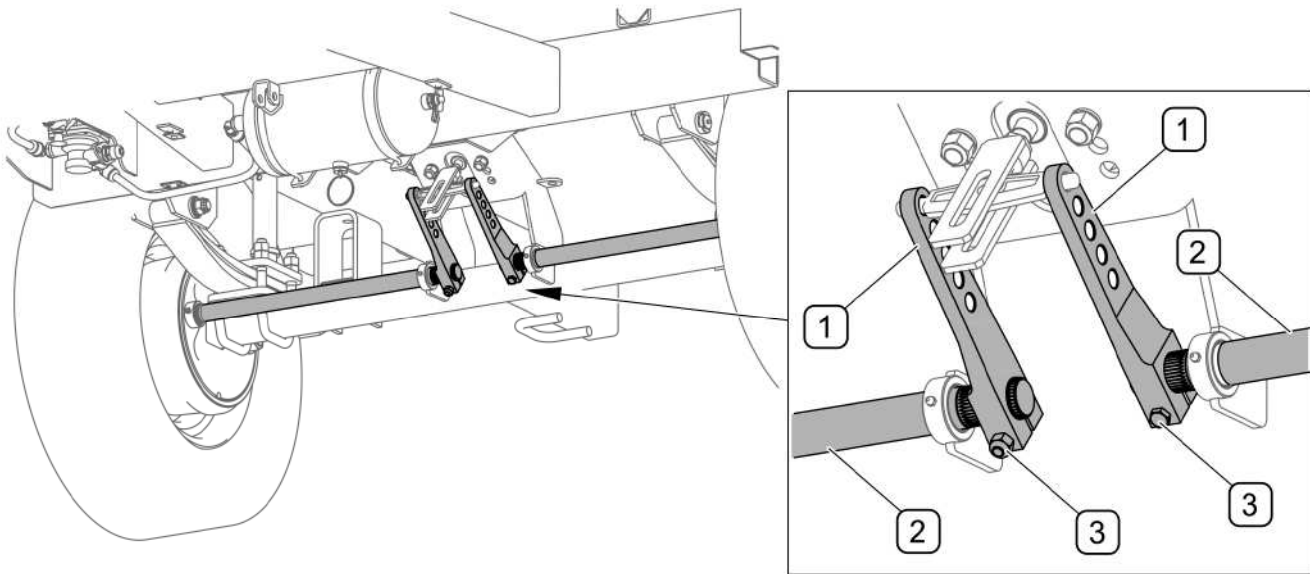

FIG. 5.24 Adjustment of main brakes
(1) - expander arm; (2) - expander shaft; (3) - clamp bolt
Brakes adjustment (FIG. 5.24) involves changing setting of axle shaft expander arm (1) in relation to expander shaft (2). To do this, loosen nut of bolt (3), and then move expander arm (1) on the multisplined end of shaft (2) in the appropriate direction, that is: